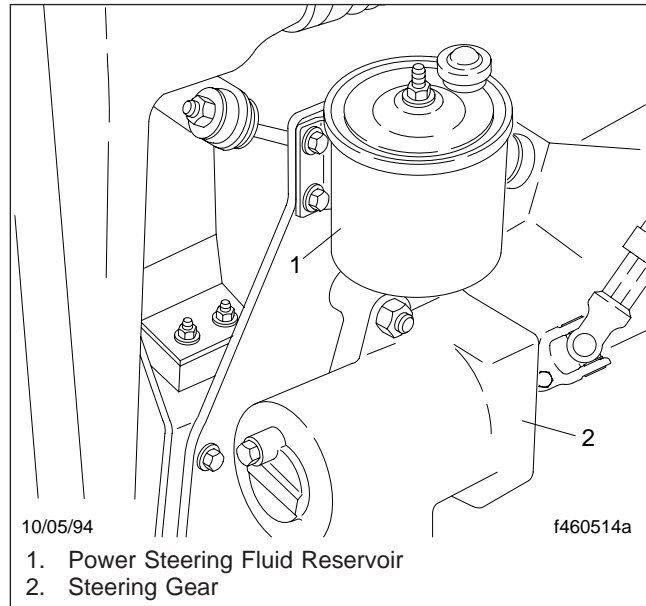

Fig. 3, Power Steering Reservoir
1. Clean around the power steering reservoir dipstick (fill cap) with a clean rag, then remove the dipstick. See Fig. 3.
1. Remove the dipstick, 3/8-16 hexnut, and cover. See Fig. 3.